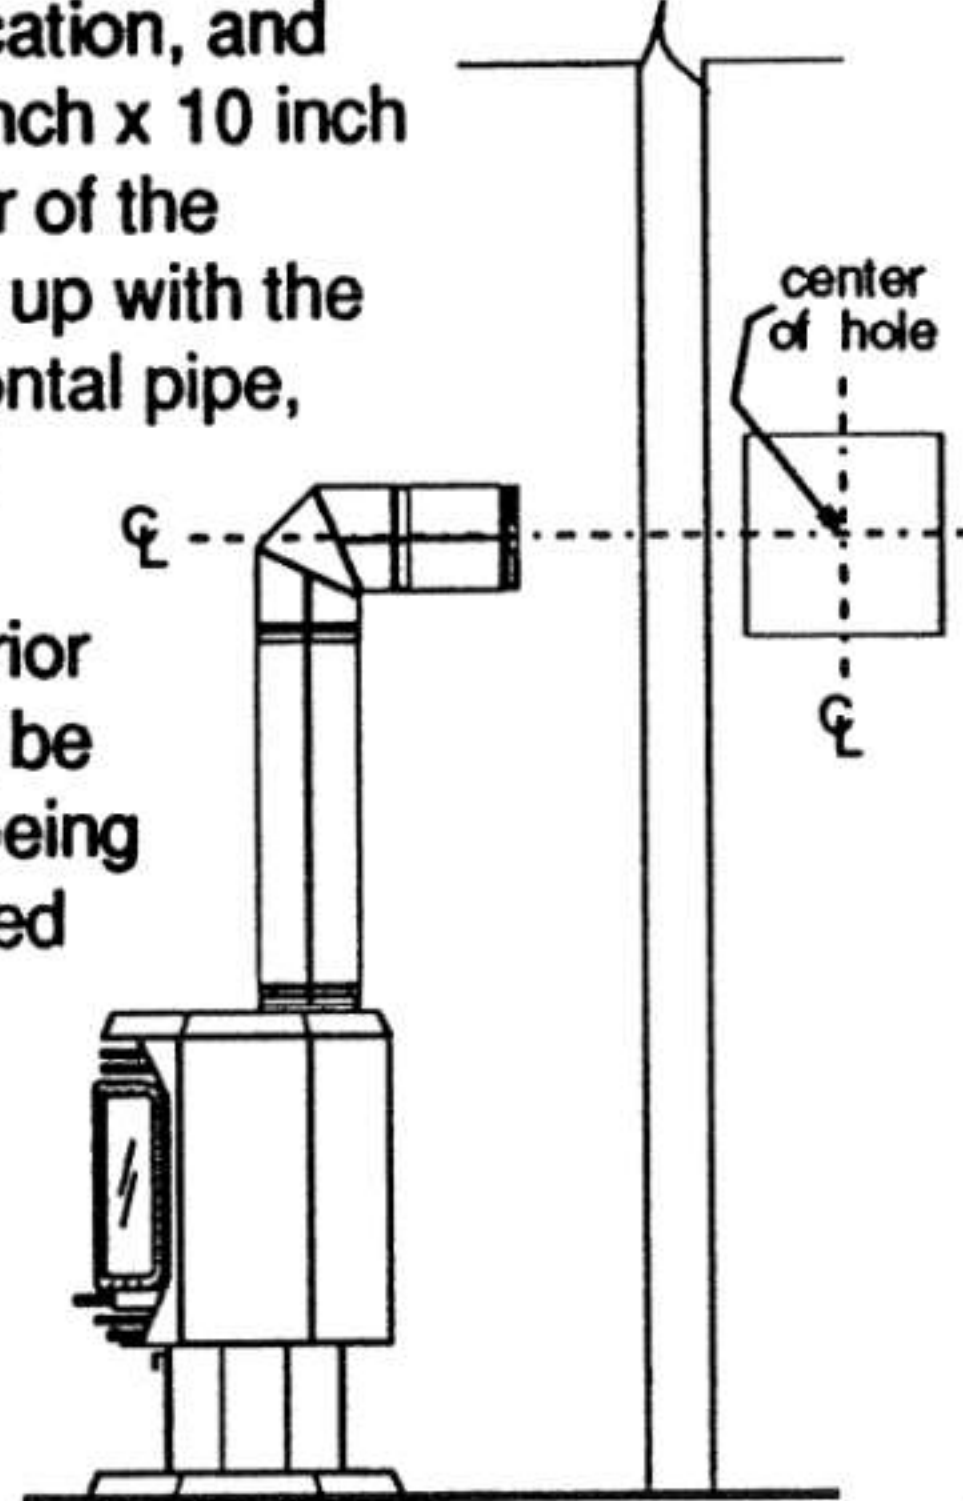

Fig. 2
- 3) With the pipe attached to the stove, slide the stove into its correct location, and mark the wall for a 10 inch x 10 inch square hole. The center of the square hole should line up with the center-line of the horizontal pipe, as shown in Fig. 2. Cut and frame the 10 inch square hole in the exterior wall where the vent will be terminated. If the wall being penetrated is constructed of non-combustible material, i.e. masonry block or concrete, a 7 inch diameter hole is acceptable.